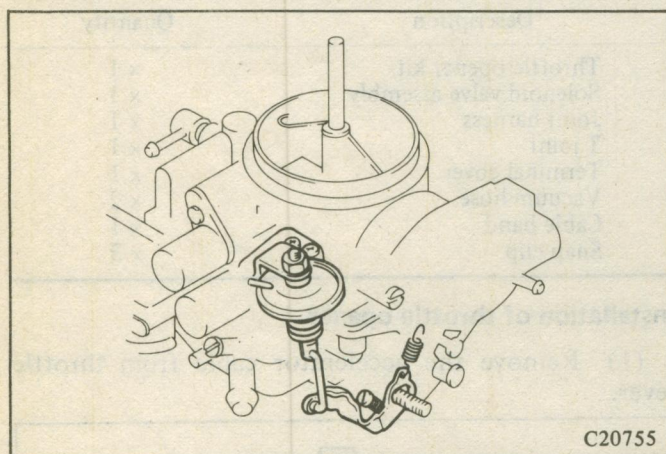

Fig. 32 Installing of Throttle Opener
- (5) Install the throttle opener and fully loosen adjusting bolt to carburetor as shown in Fig. 32.